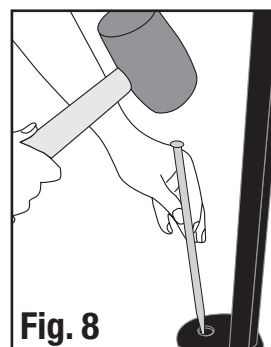

Fig. 8
- Secure shelter by driving pegs through the holes in the base of each frame post. (Fig. 8)